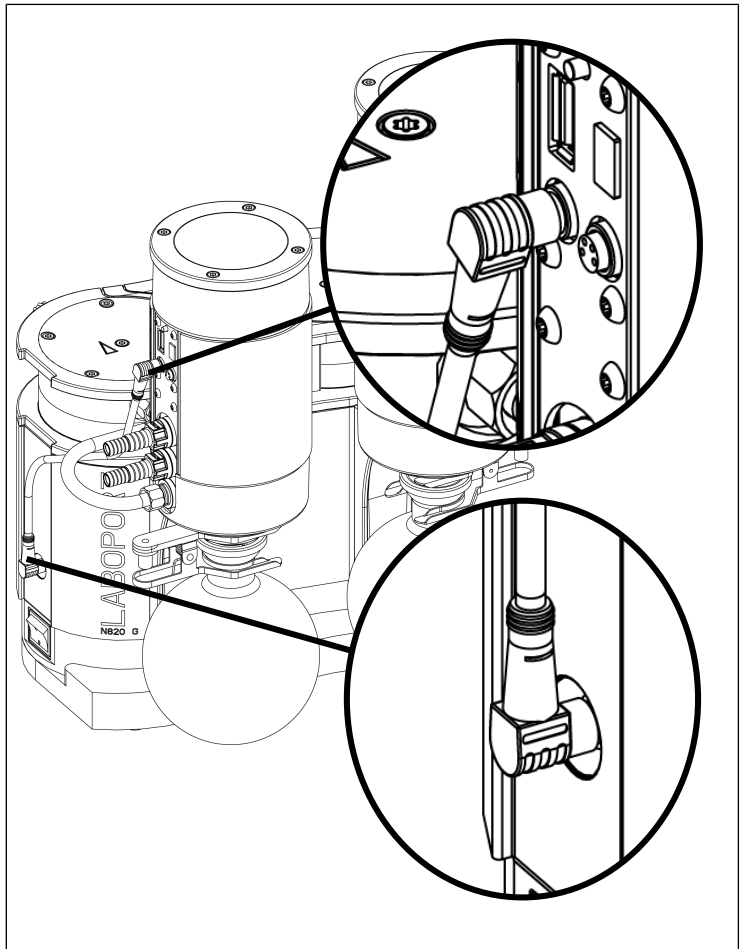

Fig. 7: Connecting the signal cable
1. Connect the signal cable to the pump (see Fig. 3/7) and the separator (Fig. 23/3) (see Fig. 7).
- i** Ensure that the signal cable is correctly aligned with the separator (30° angle; see Fig. 7).
4. Place the collection flask (4 and/or 5) on the separator adapter (9) and/or on the condenser (2) and secure the collection flask with the flask clamp (3).